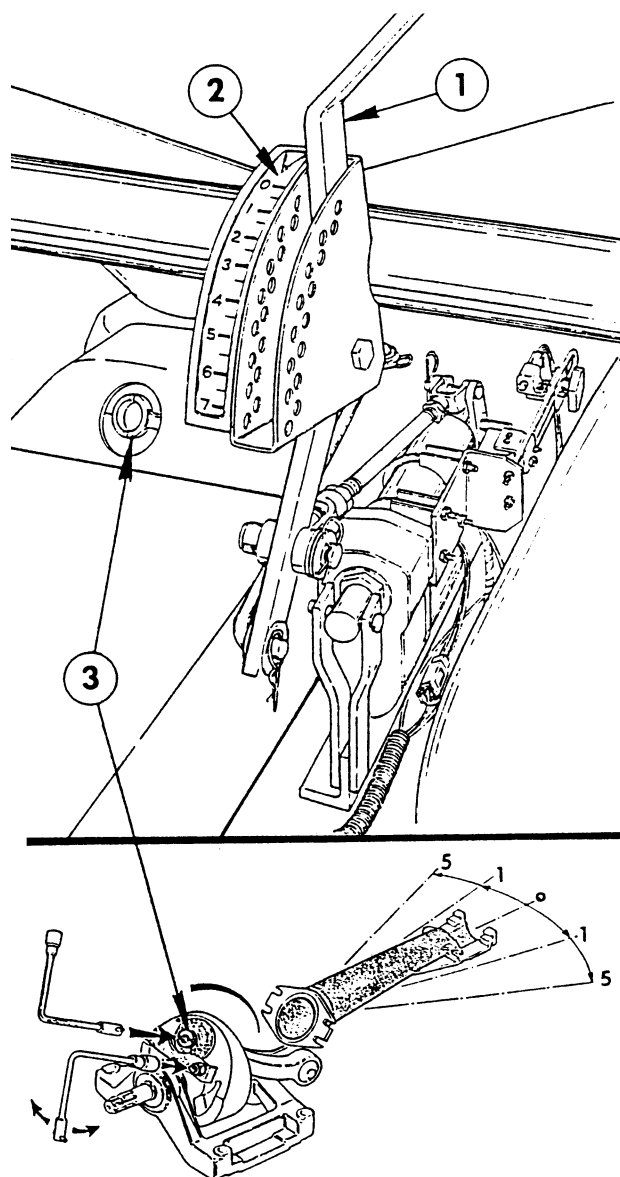

Fig. 5
1. Turn the spreader drive pulley by hand, until the arc adjuster appears in the opening in the spreader, as shown in Fig. 5.